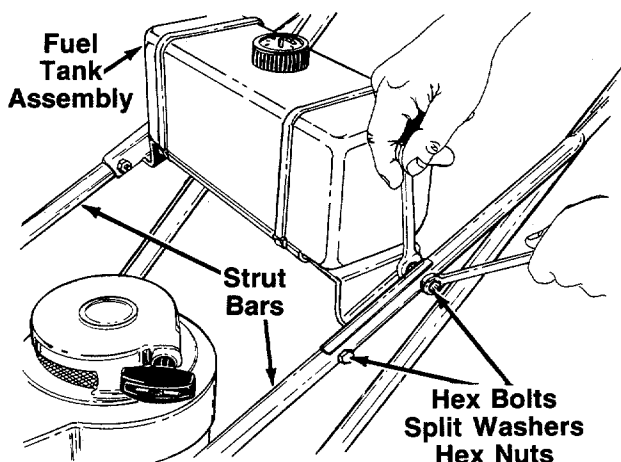

FIGURE 4.
1. Place the fuel tank assembly in position on the strut bars as shown in figure 4. Secure fuel tank assembly to the strut bars using hex bolts, split washers and hex nuts. Heads of the hex bolts are on the outside of the unit. Tighten securely.